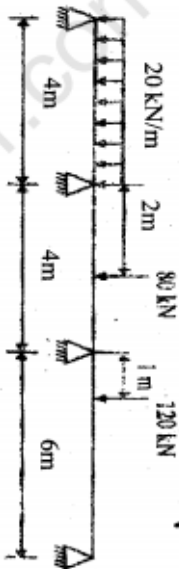

FIG 2
- b) Draw the bending moment diagram for the continuous beam shown in fig.2. Using moment distribution method. EI is constant